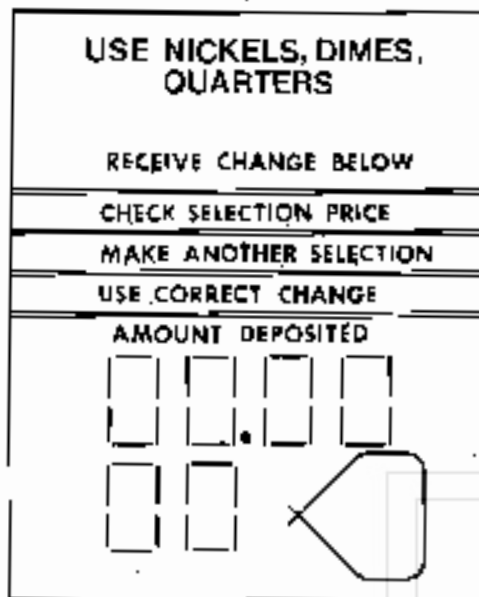

Figure 17.
- B. Press button 11 on the selection panel and the display will show "00.00" (Figure 17). This is the price display and can be incremented up by pressing button 11 and down by pressing button 12. Increments are 5¢. CAUTION: Any selection programmed at "00.00" will free vend.
- A. Press the "check price" button on the mode switch box (Figure 17). The L.E.D. above the check price button will light.